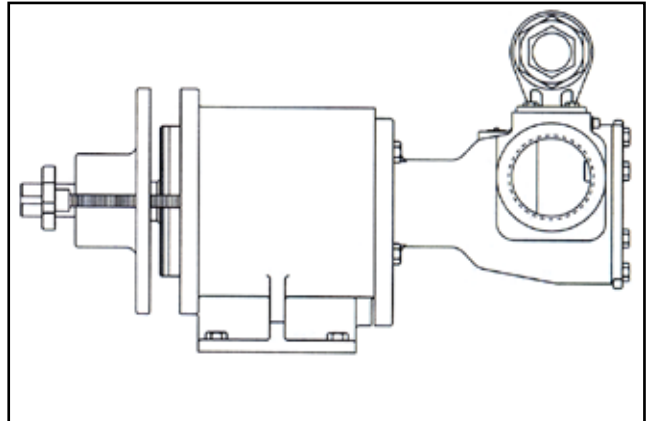

FIGURE 20
2. Turn the hand knobs evenly to back out the bearing housing and outer assembly. See Figure 20.